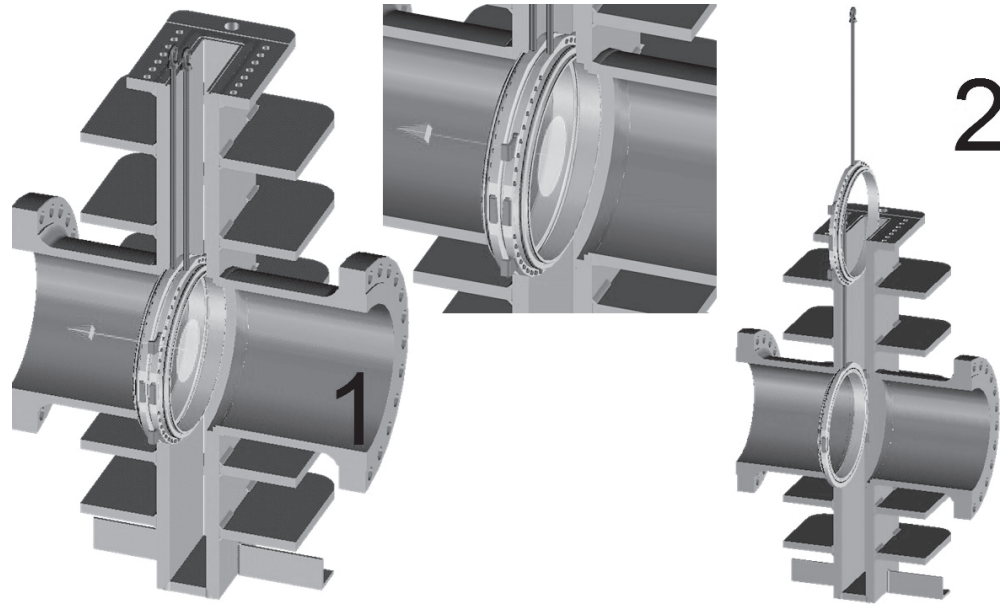

Figure 17 - Seat disassembly from the body
22. Remove the seats (4) prying out the seat recess if necessary (Figure 17)